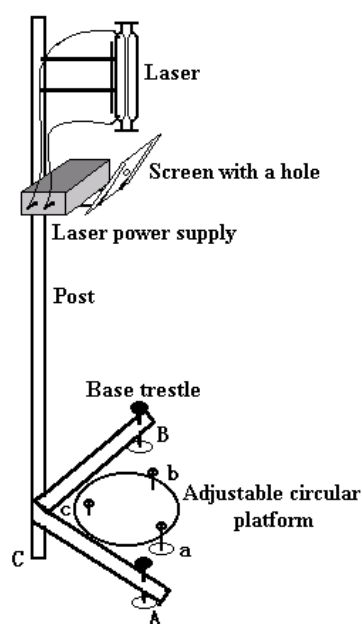

Figure 3
3. Light source holder. As shown in Fig. 3, a support consisting of a vertical post and a base trestle is designed to hold the laser light source. The post and the base trestle are fixed together at C and two tunable adjusting screws A and B are attached to the trestle. A He-Ne laser and its power supply are held at the upper part of the post,
as shown in Fig.3. Just below the laser, a slant bracket is attached to the power supply, on which is placed an aluminum plate with a hole through it. A piece of graph paper is attached to the aluminum plate, which can be used as an observation screen.
4. Sample platform: A circular platform with three adjusting screws *a*, *b*, and *c* is designed to hold the heating oven or the big aluminum cylinder including the sample and the small aluminum cylinder. The platform is placed on the experimental table, close to the base trestle, right below the laser light source, as shown in Fig 3.